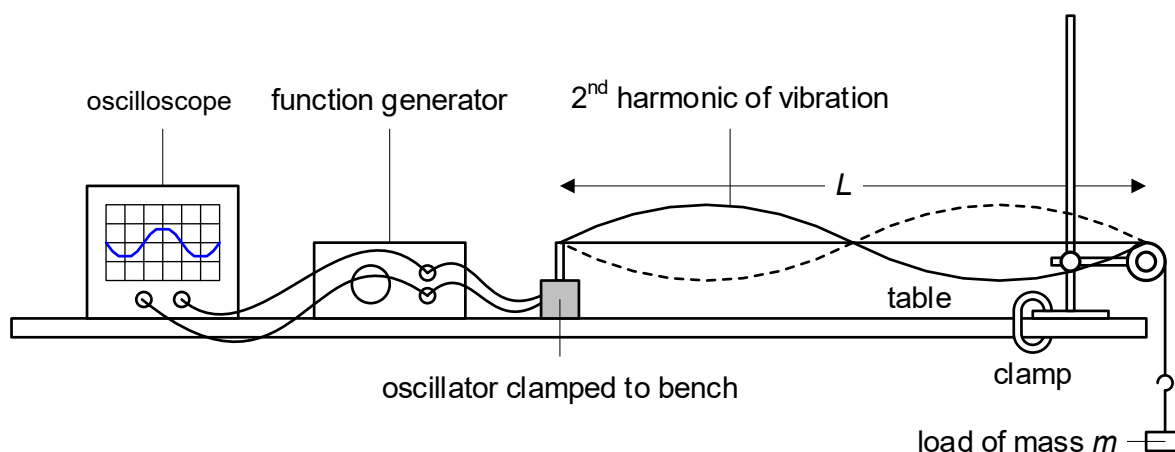

Fig. 2
3. Set up the apparatus as shown in Fig. 2.